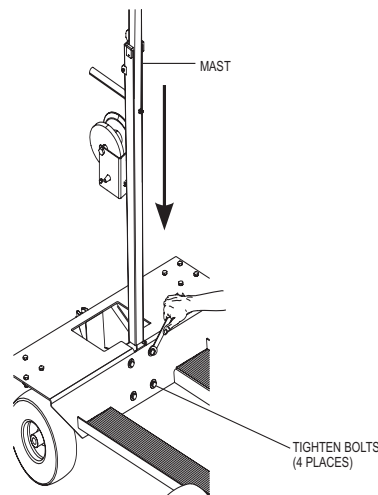

**Figure 8. Clamp Installation**
3. Install the clamp as shown in Figure 8 and tighten with bolt. Push handle towards clamp to secure handle in place as shown in Figure 9.